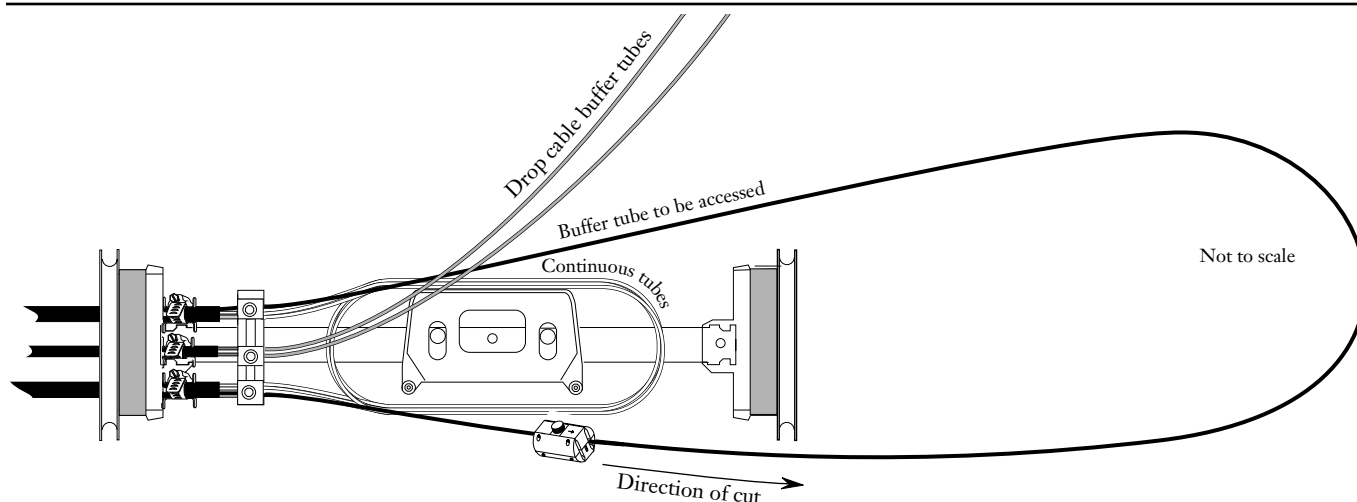

Figure 5
The arrows on the top and bottom of the tool indicate the direction the tool cuts. Make sure that you have correctly placed the tool on the buffer tube (A sample application is shown in Figure 5).
5.4 Pull the tool slowly and steadily along the buffer tube in the direction of the arrows indicated on the tool for a distance of approximately 60 cm (24 in.) (Figure 5).